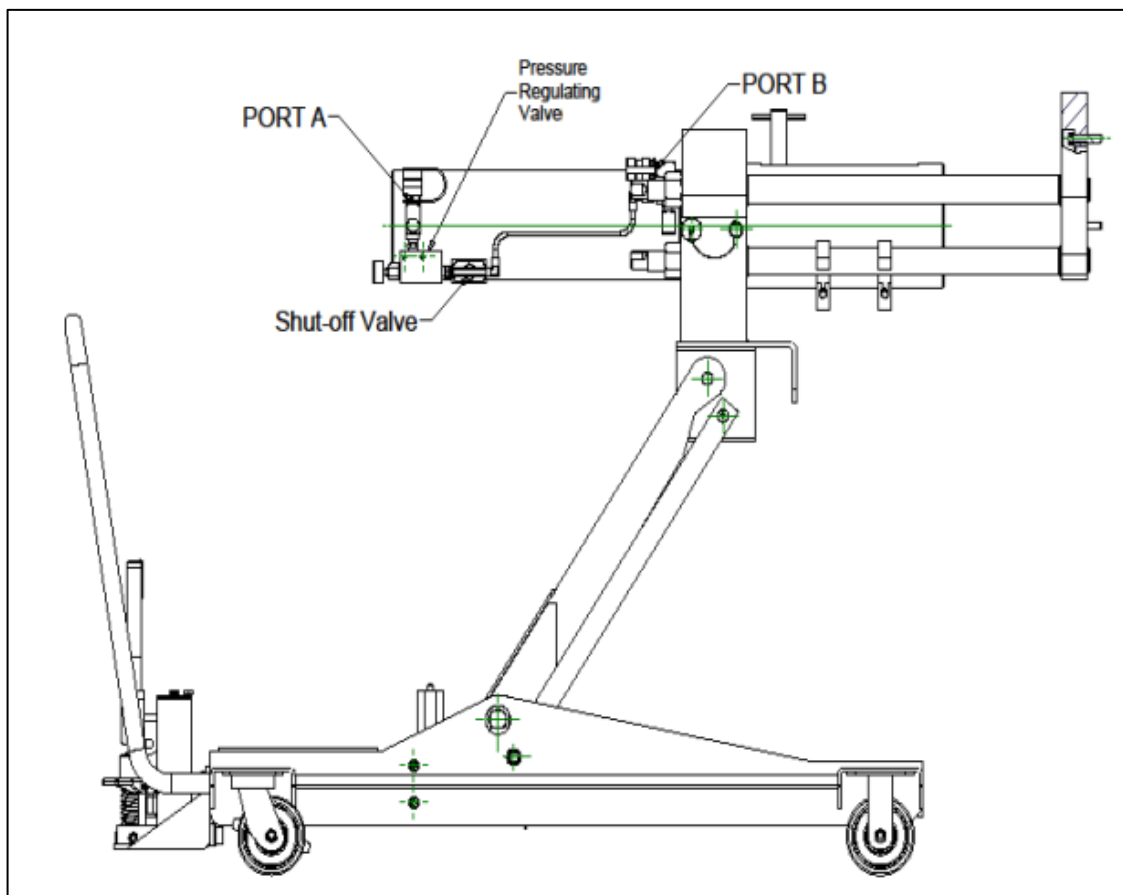

Figure 1 –Hose Connection & Adjusting the Pressure Regulator Valve
- a) Connect 0.9 M (35") hose from port ‘A’ to the pressure regulator valve (shown below in Figure 1 & 2).